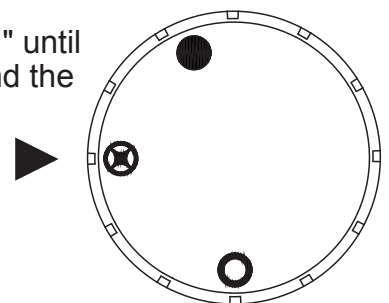

Fig. 23a
4. Wait (5) minutes to clear out any gas. Then smell for gas, including near the floor. If you smell gas, STOP! Follow "B" in the safety information above. If you don't smell gas, go to the next step.
5. Push in gas control knob slightly and turn counterclockwise  to the PILOT "⊗" position. (See Fig. 23a) Depress control knob.